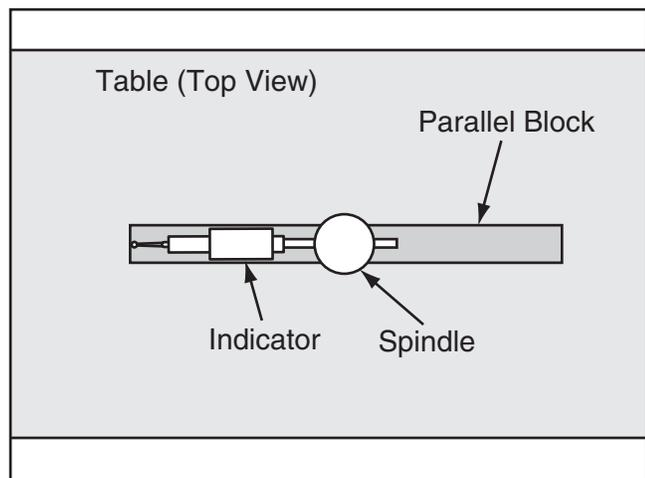

Figure 52. Parallel block and indicator positioned for the X-axis measurement (top view).
5. To measure spindle alignment along X-axis, place parallel block directly under spindle and indicator across length of table, as illustrated in **Figure 52**.